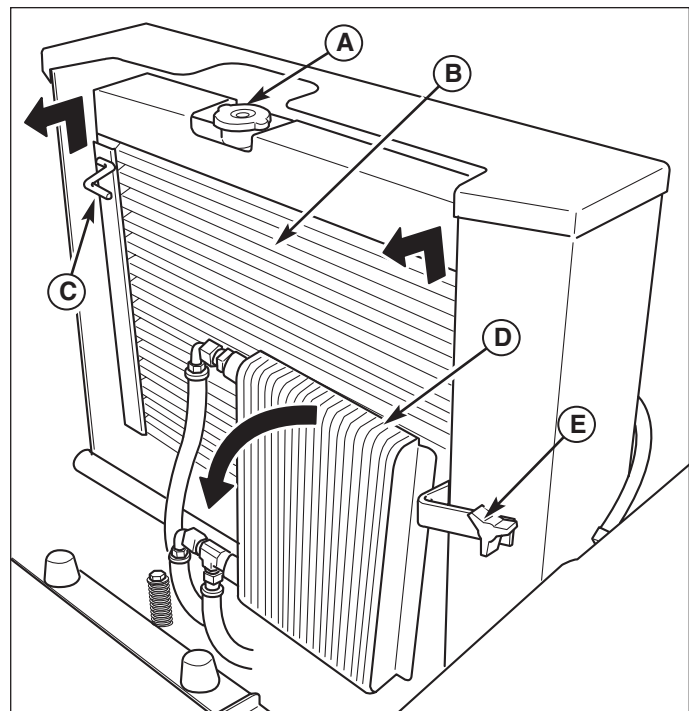

Figure 17. Radiator & Oil Cooler
1. Remove the radiator pressure cap (A, Figure 17) to check the fluid level.